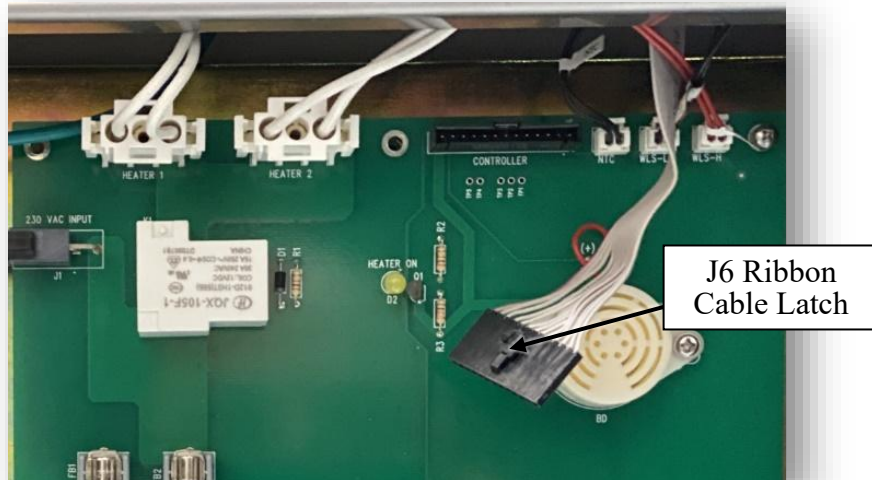

Figure 30 – Reseat the J6 Ribbon Cable
- d. Unplug the SCA from power and reseat (unplug and plug back in) the J6 “CONTROLLER” ribbon cable (**See Figure 30**). The latch must be released to remove the ribbon cable. Press the latch with a thumbnail and wiggle the connector out of the slot. Plug the ribbon connector back into the PCB slot and ensure it snaps securely. Power on the SCA and press the Start Button .